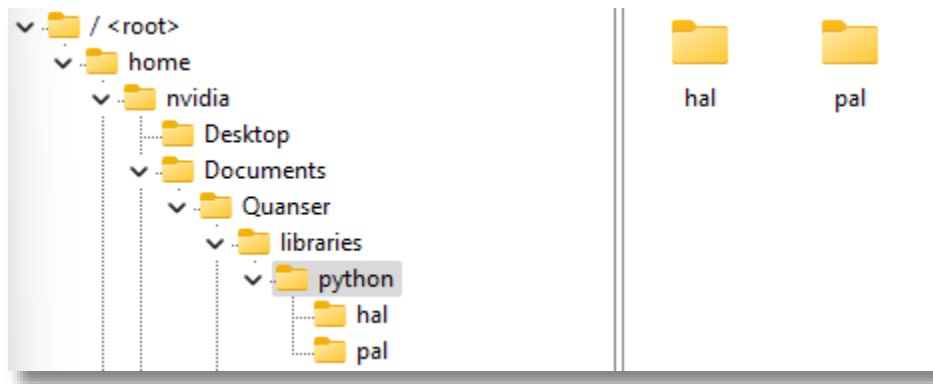

Figure 4. 'hal' and 'pal' folder in correct directory
- b. navigate to "~\Documents\Quanser\libraries\python" on QBot as shown in Figure 4, create these directories if they don't exist. Copy over the "hal" and "pal" folder from your local Windows machine, replacing existing files on QBot.